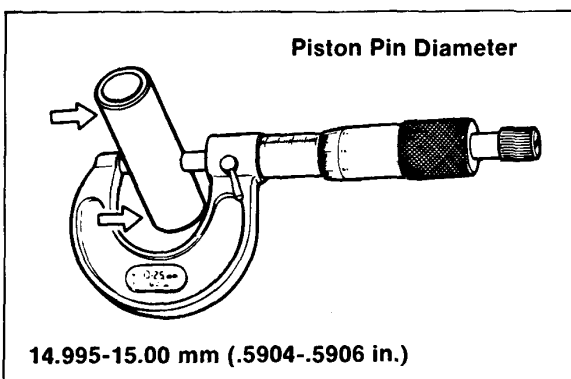

Figure 4-38
2. Measure the piston pin diameter. The pin should measure 14.995 — 15.00 mm (.5904 — .5906 in.) See Fig. 4-38.